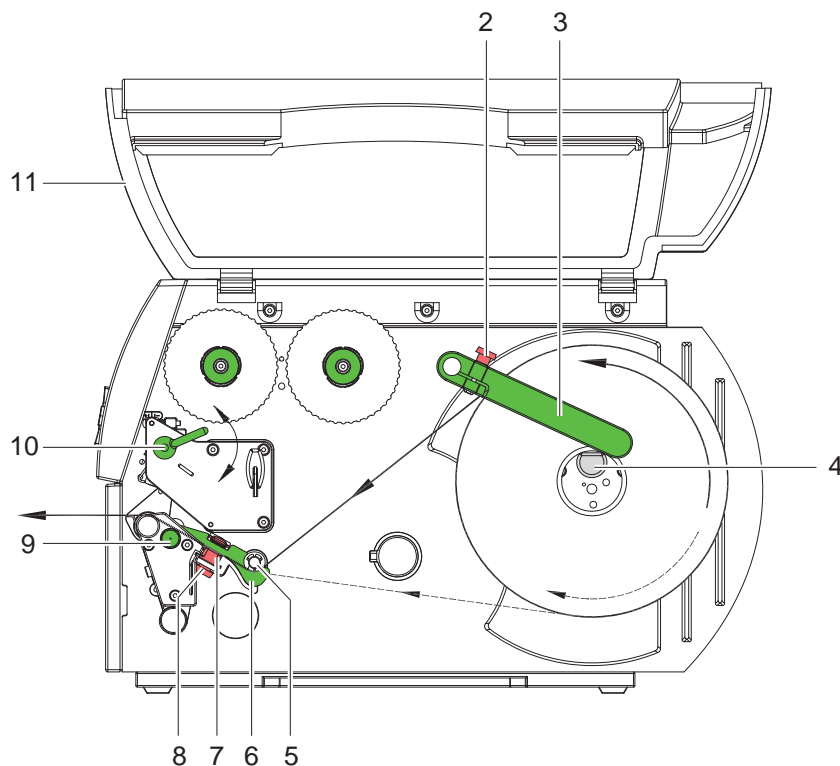

Fig. 6 Loading media from roll
- Loosen the knurled knob (8, fig 6) and position label sensor by moving the knurled knob in such a way that the sensor can detect the label gap or a reflex or cut-out mark.
- Turn lever (10) clockwise to lock the printhead.